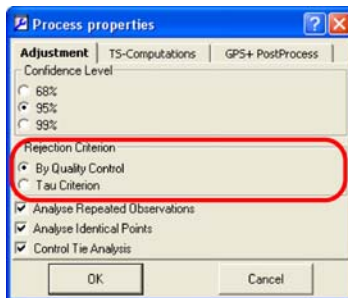

Figure 6-22. Select Rejection Criterion Test
2. On the Adjustment tab, select the desired rejection criterion (Figure 6-22).
Note that $\tau_{critical}$ depends on the number of degrees of freedom and the selected level of confidence (Figure 6-22 on page 6-19).